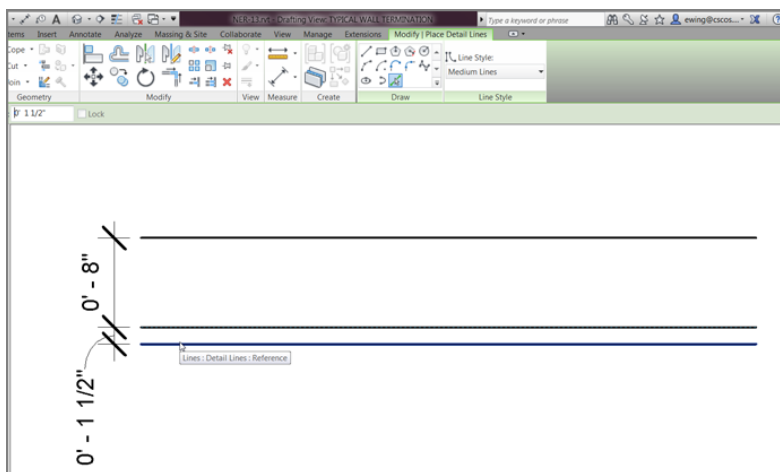

FIGURE 12.53: Using Pick Lines and adding an offset of 1 1/2" (38mm)
8. Offset the bottom line down 1 1/2" (38mm). Your detail should look like Figure 12.53.